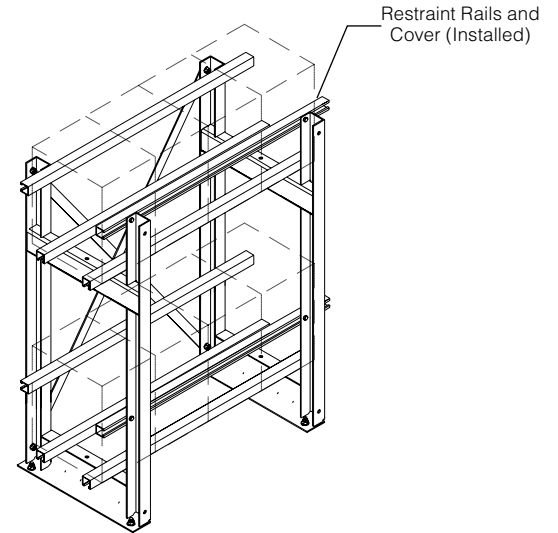

Figure 8. Installed Front Restraint Rail
- 9 Front Restraint Rail (EP only):** With the batteries in place, slide the front side support rail and cover up from its resting location to its mounting location, aligning with rear side restraint rail. Install hardware and torque to 15-20 ft.-lbs. See Figure 8.